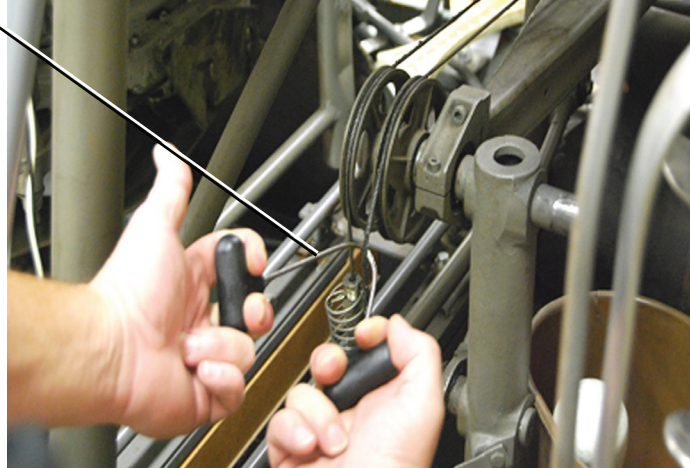
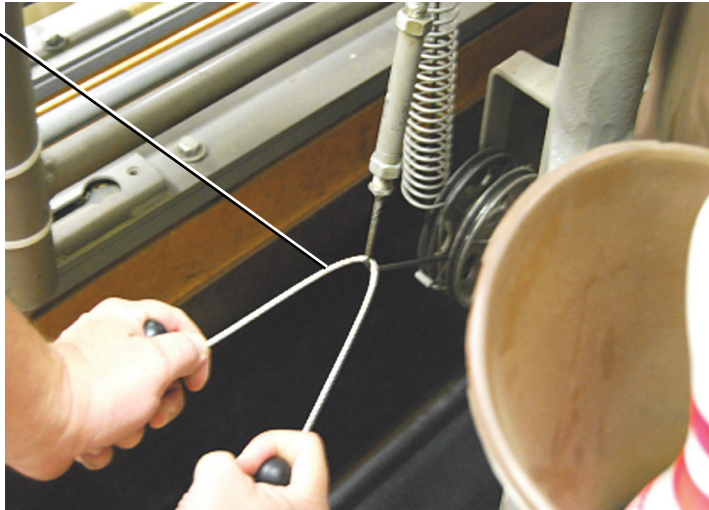

Figure 3
Figure 4
2. Remove the upper and lower scissor cables from the pulleys on the deck assembly. Position the cables between the scissor and moving deck pulleys. To remove the cables, we suggest using the Cable Removal Tool 12-860673-000. Refer to *Figure 3* and *Figure 4*.